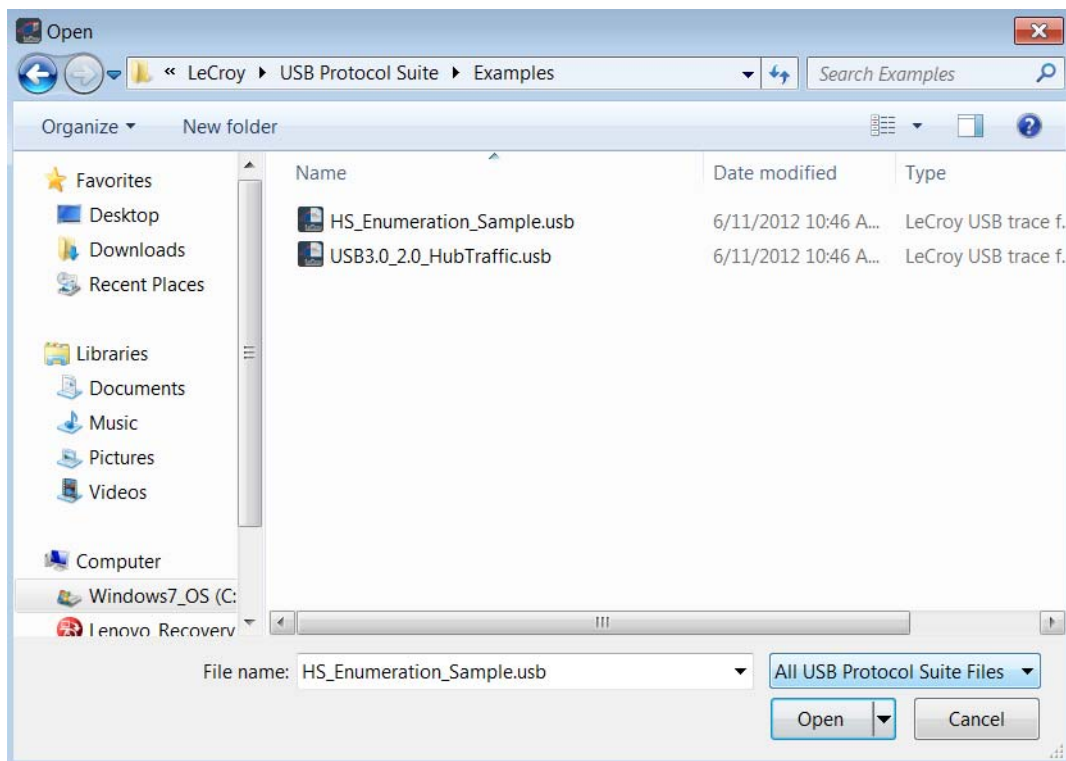

Figure 11.14: Open Dialog
1. Select **File > Open ...** from the menu to display the Open dialog box (see Figure 11.14 on page 340):